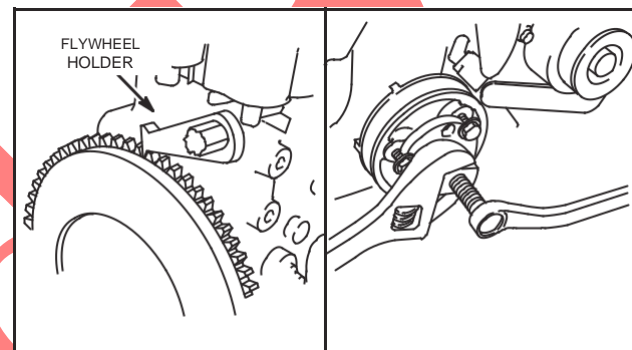

Fig. 8 – Removing Crankshaft Pulley
- a. Remove crankshaft pulley using Tool #19420, Fig. 8.